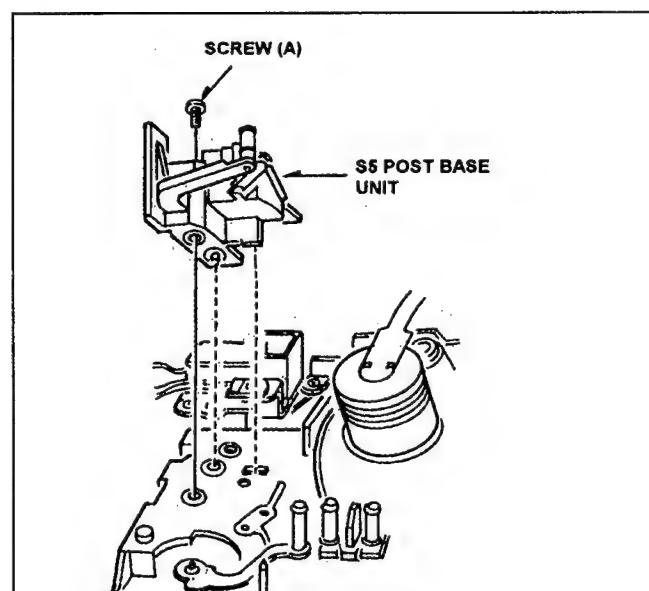

Fig.4-17-1 Removal of Post Base Unit
1. Remove the Mechanical Unit (Refer to item 2-1, Removal of Mechanical Unit).
2. Unscrew the screw (A) and remove the S5 Post Base Unit as shown in Figure 4-17-1.
1. Install the S5 post Base Unit follow the removal steps in reverse order, then be careful the S5 Post Base Unit is intsal to mech chassis as shown in Figure 4-17-1.
2. After installation, Post Height pre-adjustment (Refer to item 3-4) and Linearity adjustment (Refer to item 3-17 [Tape Pass Adjustment Procedure]) should be performed.